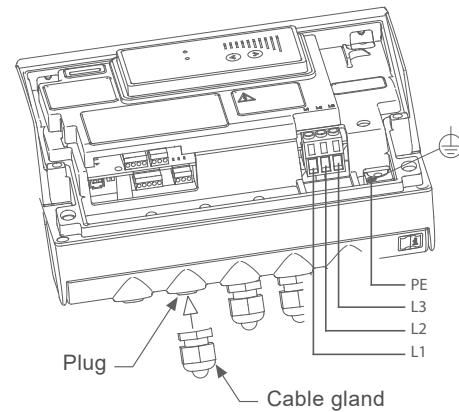

Fig. 32 Removing the plug and connecting cable gland to the terminal box
- a. Remove the plug from each MLE terminal box with a flat head screw driver. See fig. 32.
- b. Screw a new cable gland into each MLE terminal box with a crescent wrench. See fig. 32.
- i. Tighten the cable gland cap to secure the cable. See fig. 32.